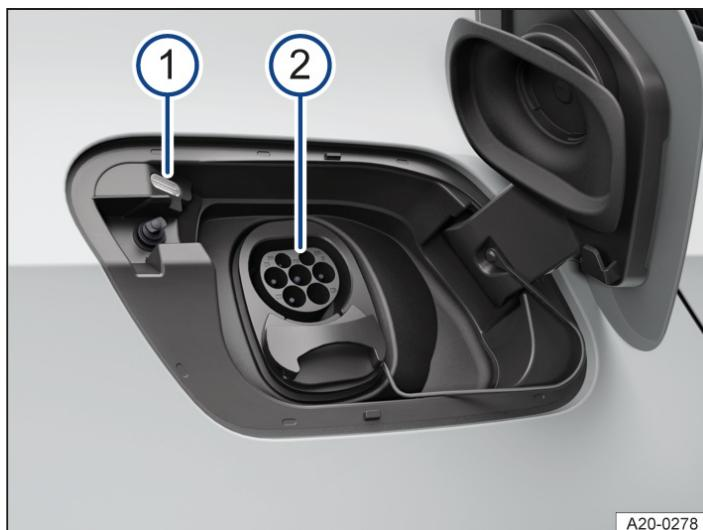

Fig. 1 Behind the charging socket flap at the rear right:
Charging station, wall box, mains socket: The vehicle's high-voltage battery can be charged with alternating current (AC) via the top connection in the charging socket → *Fig. 1* 2.